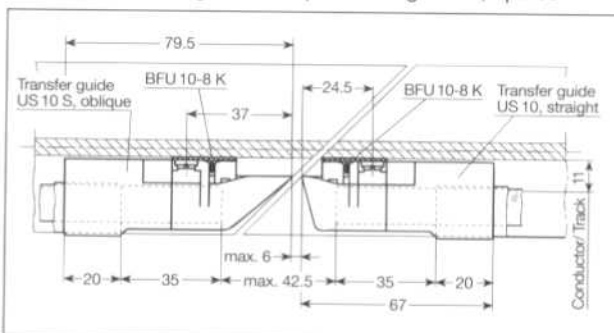

Fig. 5: 45° cut track beam with BFU 10 K
- Secure BFU anchor bar on track beam, see fig. 5 and 6 for hole location and details under 8.3. (PVC-bar for single press locking, Alu-bar for locating group of transfers).
Drill holes for attachment screws; for location of holes see fig 5 and 6.